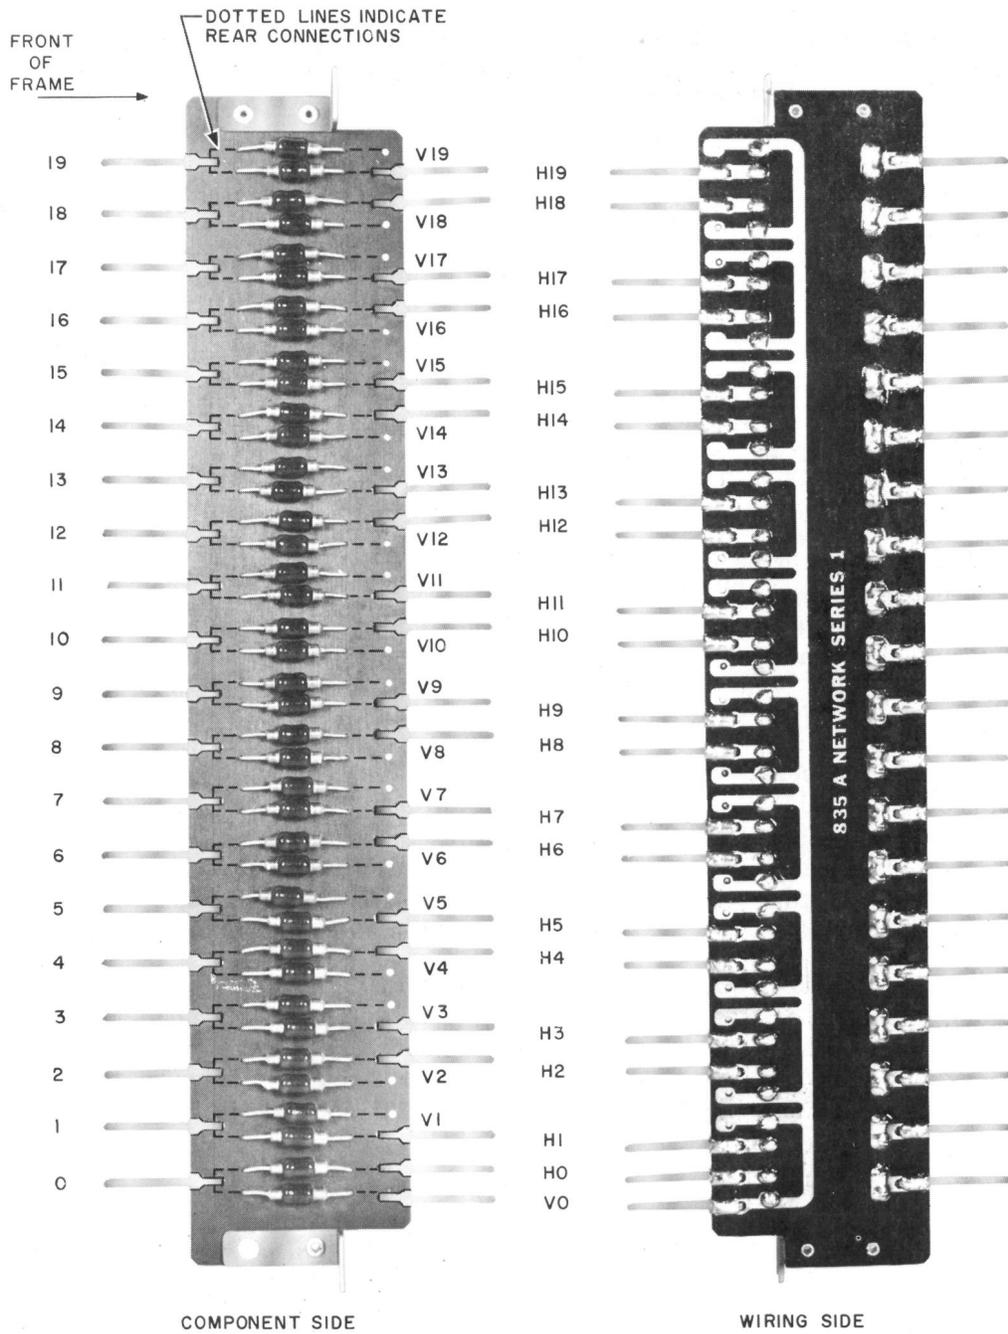

Fig. 1 - 835A Network Assembly (terminal designations are for reference only)
**1.02** Replacement of defective diodes shall be made while the network is in place on the identification frame. As shown in Fig. 1, the 835A network is a printed wiring board used to mount 20 pairs (H and V) of 420B type diodes.
**3.01** *V1 Through V19 Diodes:* For the initial replacement of a defective V diode, mounted as shown in Fig. 1, proceed as follows.
**3.02 VO and HO Through H19 Diodes:** For the initial replacement of a defective VO or H diode, mounted as shown in Fig. 1, proceed as follows.